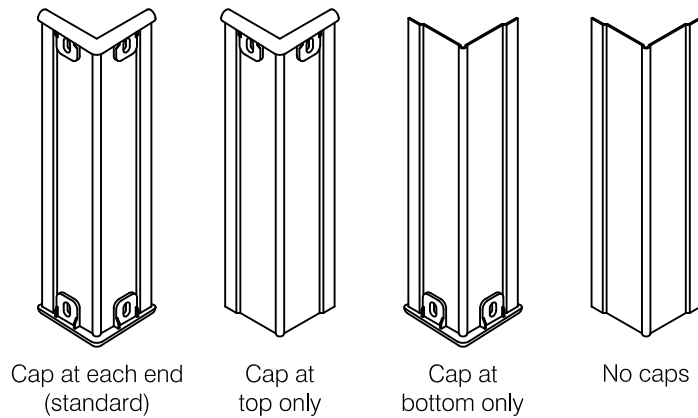

fig 1
**Step 1:** This series of corner guards is available with molded closure caps. While the installation of a cap at each end is considered standard these corner guards may also be installed with no caps or with a cap at either end, see **fig 1**.